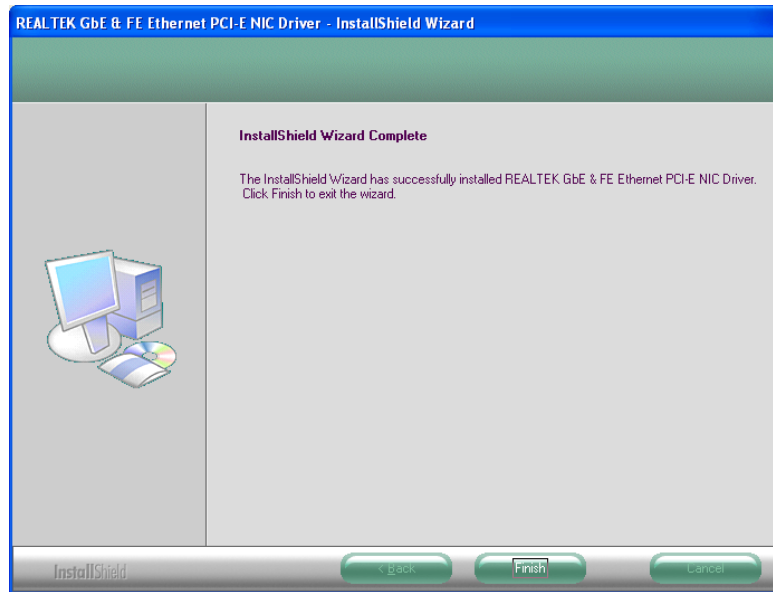

Figure 7-20: LAN Driver Installation Complete
Step 9: When the driver installation is complete, the screen in **Figure 7-20** appears.